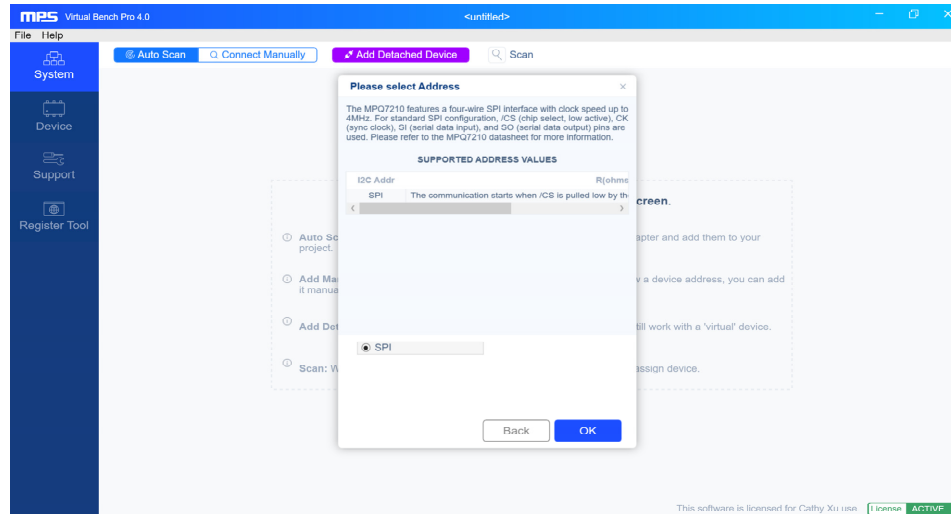

Figure 7: Select SPI in Virtual Bench Pro 4.0
13. Select “SPI,” then click “OK” (see Figure 7).